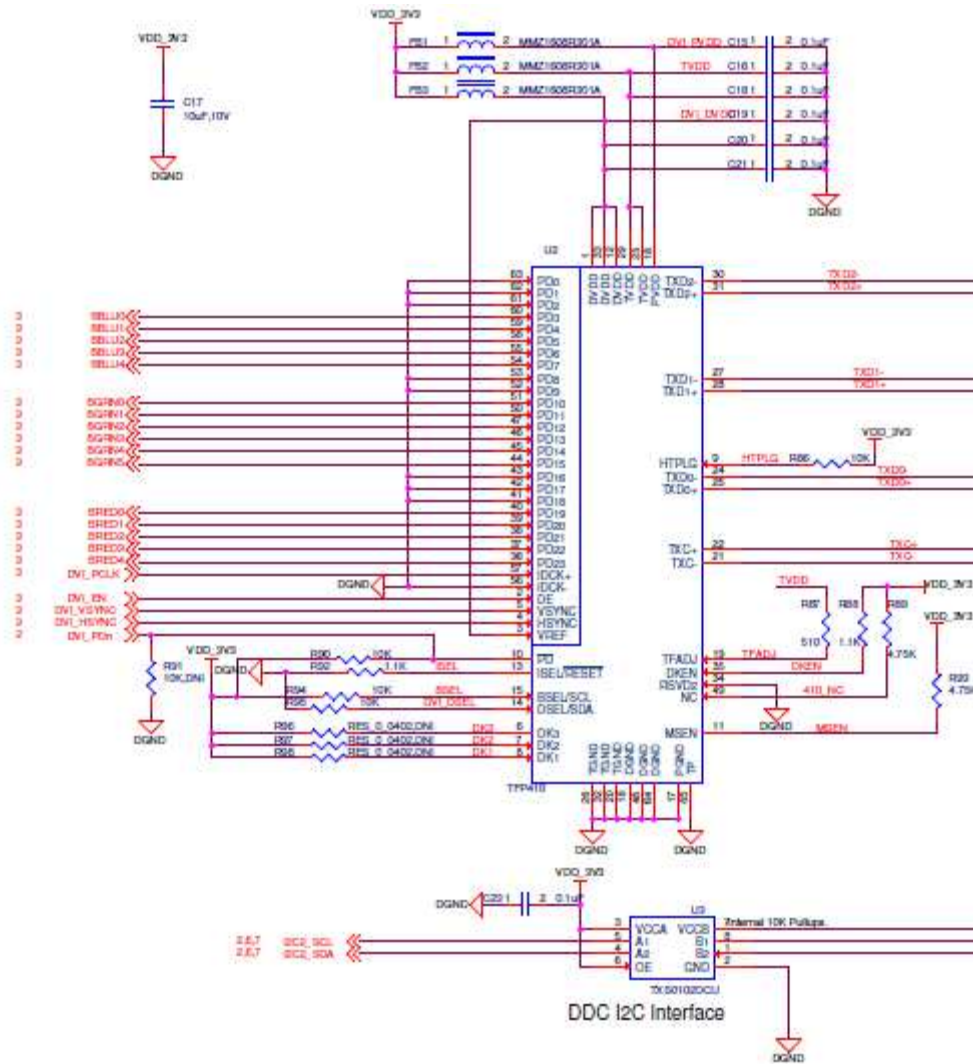

Figure 5. DVI-D PanelBus Digital Transmitter and Voltage Translator
TFP410 is a digital transmitter which transmits LCD signals to the HDMI port. The DVI power down signal is connected to the active-low power down pin (PD) of the transmitter. The TFP410 transmits three pairs of differential signal outputs and one pair of differential output clock to the HDMI connector. The EDID I2C signals that goes to the HDMI connector is at 5V; thus, a 2-bit bi-directional voltage translator TXS0102DCU is required to step up the EDID I2C signals from main expansion header P2 to 5V. **Figure 5** shows the TFP410 and TXS0102DCU in the schematic.